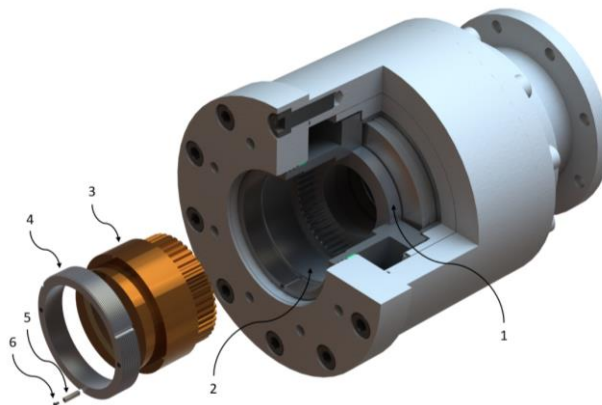
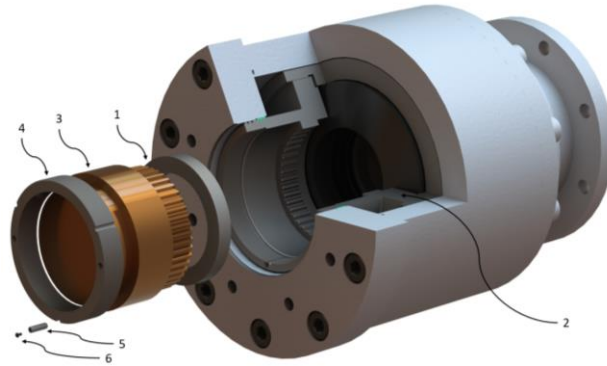

Figure 2 - RT/RTC Drive Nut Installation, Pre-Installed Thrust Washer
Figure 3 – RT/RTC Drive Nut Installation, Uninstalled Thrust Washer
- a. In some assemblies, the thrust washer [1] is pre-installed into the drive housing [2]. Visually inspect the drive housing [2] to confirm pre-installation with the use of **Figure 2** and **Figure 3**. Contact WedgeRock for assembly-specific verification of the thrust washer [1] installation.
1. Referencing **Figure 2** and **Figure 3** from **Section 5.1**; remove the button head cap screw from the drive housing
- In some assemblies, the thrust washer is pre-installed into the drive housing. Visually inspect the drive housing to confirm pre-installation. Reference **Figure 2** and **Figure 3** from **Section 5.1**. Contact WedgeRock for assembly-specific verification of the thrust washer installation.